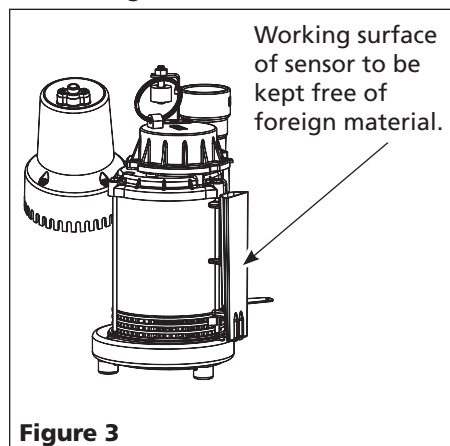

Figure 3
5. Wipe water sensor surface regularly to prevent silt or other coatings from building up on sensor face (see Figure 3).